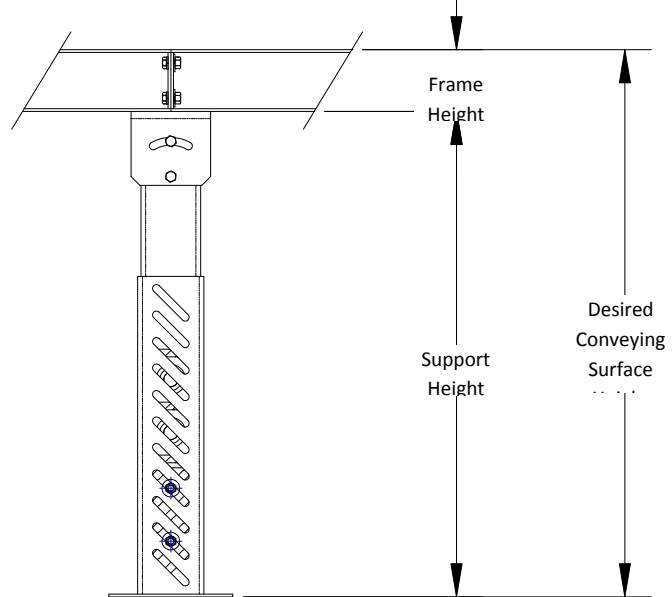

Figure 2 – Support Height Adjustment
- Set the support height. Subtract frame height from desired conveying surface. See Figure 2. Adjust the supports to this dimension by sliding inner and outer legs and tighten bolts.